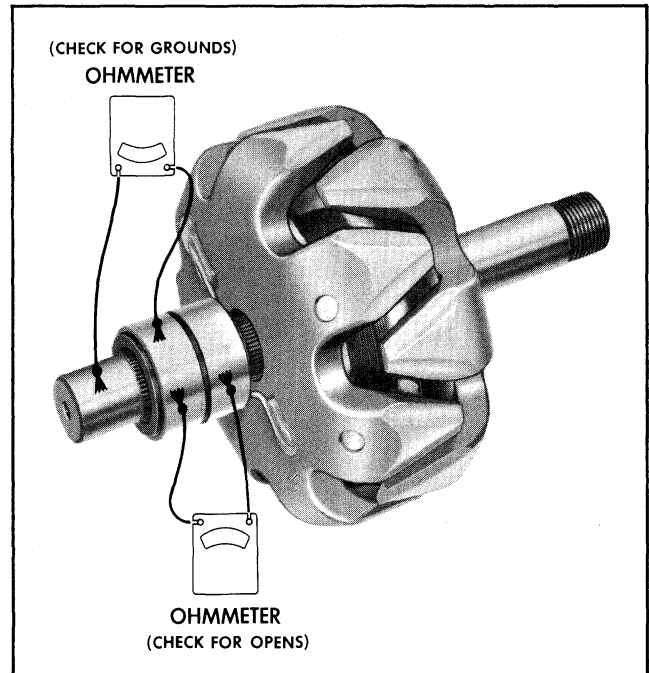

Fig. 11-18 Checking Rotor
1. To check for grounds, connect a 110 volt test lamp or an ohmmeter from either slip ring to the rotor shaft, or to the rotor poles. If the lamp lights or the ohmmeter reading is low, the field winding is grounded (Fig. 11-18).
2. To check for opens, connect the test lamp or ohmmeter to each slip ring. If the lamp fails to light, or if the ohmmeter reading is high (infinite), the winding is open (Fig. 11-18).